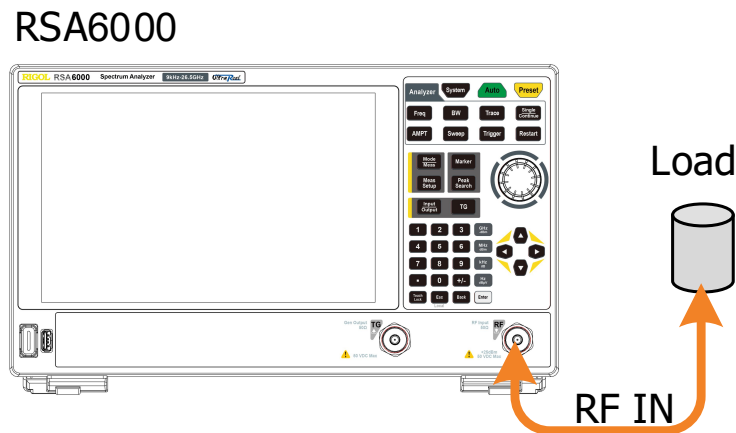

Figure 4.1 DANL Test Connection Diagram
1. Connect the 50 Ω matched load to the RF input terminal of RSA6000, as shown in *Figure 4.1*.